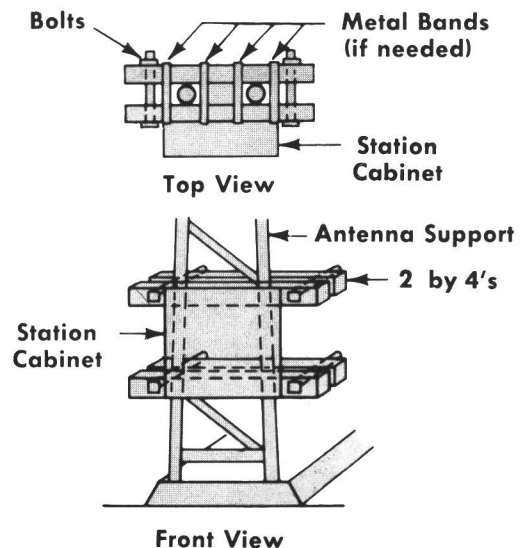

Figure 5 — Installation to Antenna Support
1. Mount 2" by 4" supports on antenna support as shown in Figure 5. Bolt securely and band tightly together to prevent slippage and vibration.